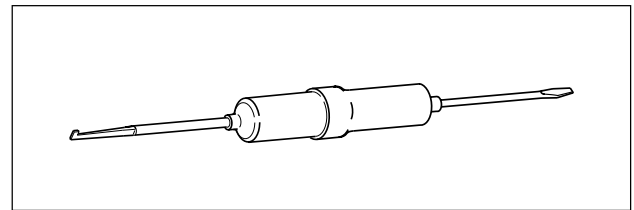

Figure B-10. Deutsch Connector Pick Tool (Part No. HD-41475-100)
1. Remove the secondary locking wedge. Use the hooked end of a stiff piece of mechanics wire or a needle nose pliers, or a suitable pick tool (Part No. HD-41475-100). See Figure B-10.